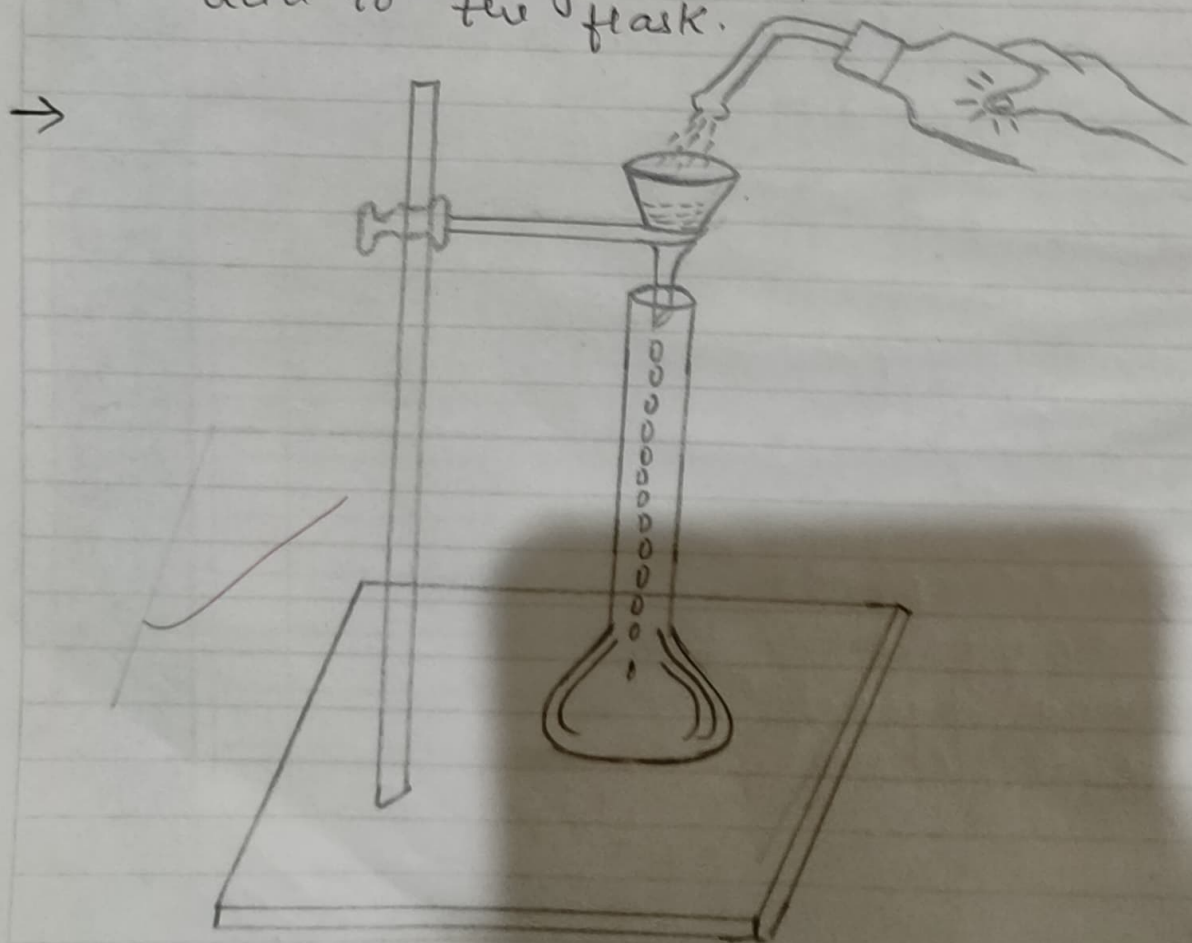

Figure 11.15 Adding water.
5) Finally wash the funnel well with distilled water with the help of a wash bottle to transfer the solution sticking to the funnel into the measuring flask [fig. 11.15]